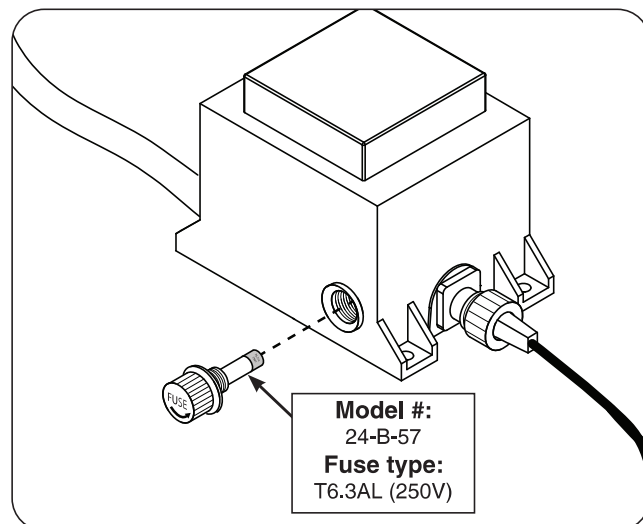

Fig. 34-1 Replace fuse
3. Locate the fuse holder on the power supply box (see Fig. 34-1).